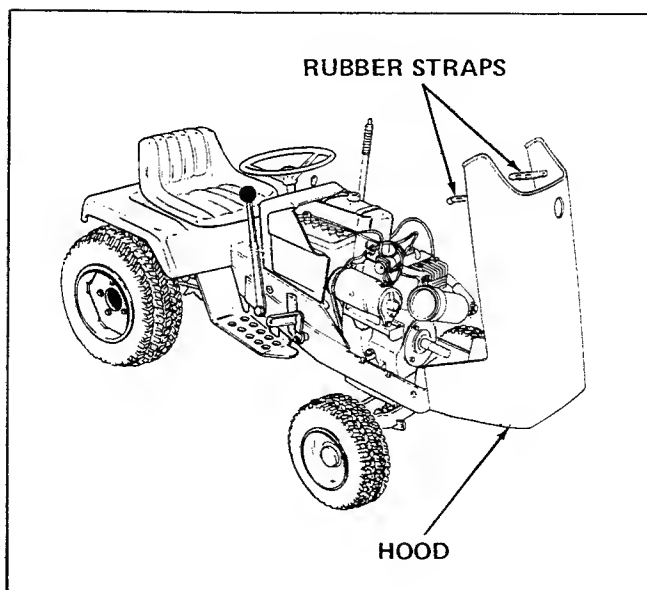

Figure 16. Raising the Hood
The hood may be raised to the position shown in figure 16. With the hood raised, parts in the engine area are easily reached. Raise the hood as follows:
1. Pull the rubber straps (figure 16) down and away from the holddown pins.
2. Raise the hood to the position shown in figure 16.